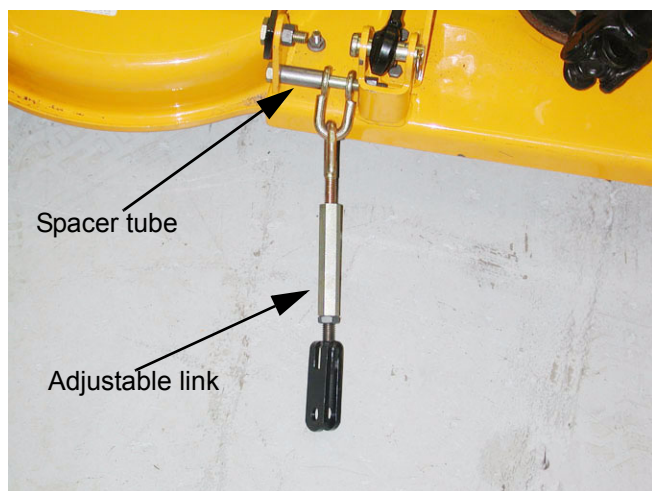

Figure 3.4
- 3.4. Install the clevis end of the adjustable lift link between the inner and outer brackets welded near the back of the deck, on the left side. See Figure 3.4.